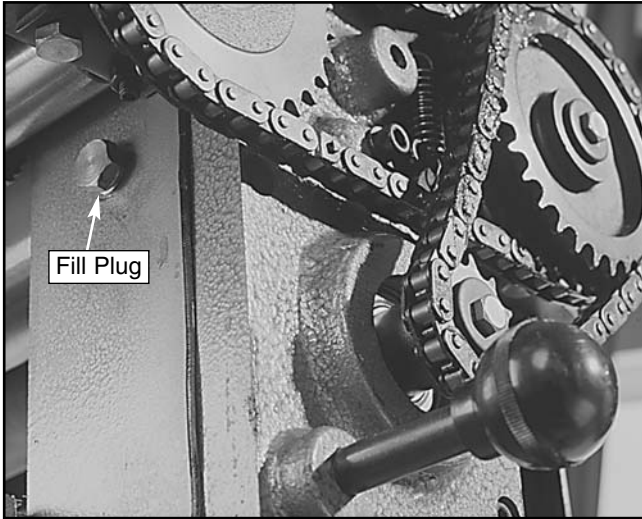

Figure 30. Location of gearbox fill plug.
3. The oil level in the gearbox should be to the bottom of the filler plug near the top of the gearbox. Top off with 80-90 wt. gear oil if necessary. Use 50 wt. motor oil if you are working in an unheated winter shop. See **Figure 30**.